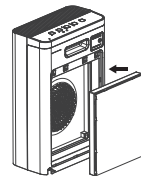

Fig.4
4. Install the filter to machine (see fig.4)